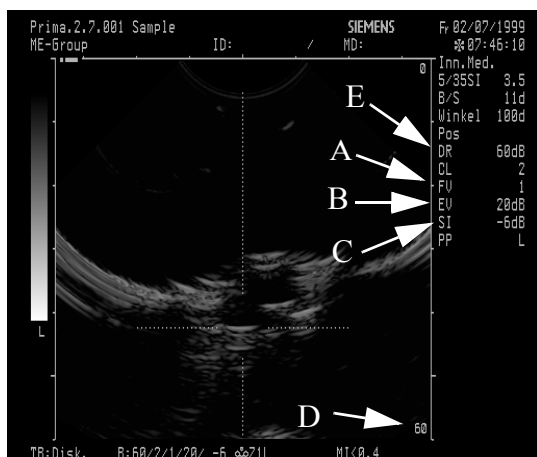

Fig. 14
- Use the knob  to set a value of "60" (D/Fig. 14).